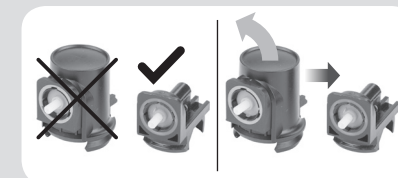

Fig. 11
Gas can connection adapter type	low (see fig.11)
- **For connection to the nail gun, the gas can must be fitted with a low connection adapter shown in fig. 11. Gas cartridges from Bostitch may be supplied with a tall connecting adapter, from which you can make a short adapter by removing the top part, however this cannot be generalised as a rule and it depends on the manufacturer of the gas cartridge. It may be necessary to consult this with the seller of the gas cartridge.**